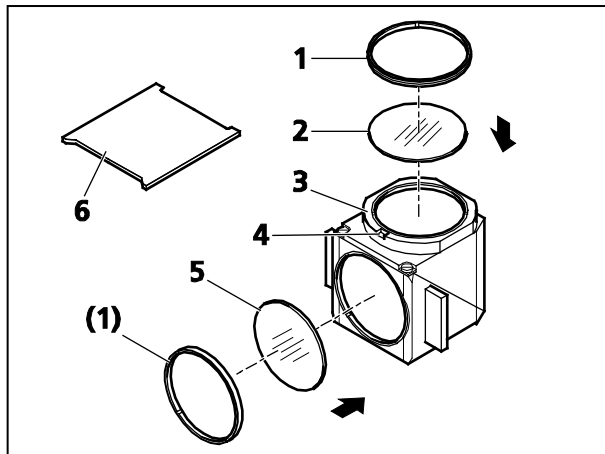

Fig. 3-28 Changing a Filter Set in the FL P&C Reflector Module
- Take the FL P&C (Fig. 3-28/3) reflector module out of the reflector turret and set it down. (See also Section 3.1.9.)
- Use the mounting plate (Fig. 3-28/6) from the tool kit to screw out the retaining ring (Fig. 3-28/1).
- Turn over the reflector module to let the filter (Fig. 3-28/2 or 5) fall out onto a soft surface.
- Insert the barrier filter (emission filter) as shown in (Fig. 3-28/2) and the excitation filter as shown in (Fig. 3-28/5), and then secure them with the retaining rings (Fig. 3-28/1).
Both the barrier filter and the excitation filter may carry their designation and an arrow on the circumference. The arrow, which must always point inwards, indicates the direction in which the filter in question is to be installed into the reflector module. (See arrows in Fig. 3-28.)
When installing the barrier filter into the reflector modules used, be sure to align that marking to the orientation groove (Fig. 3-28/4). This ensures that the wedge angle of the barrier filter will be in the same defined position in the reflector module in use, thus compensating, among modules, for and/or minimizing what is actually a very small image shift anyway in the Zeiss filter sets utilized.